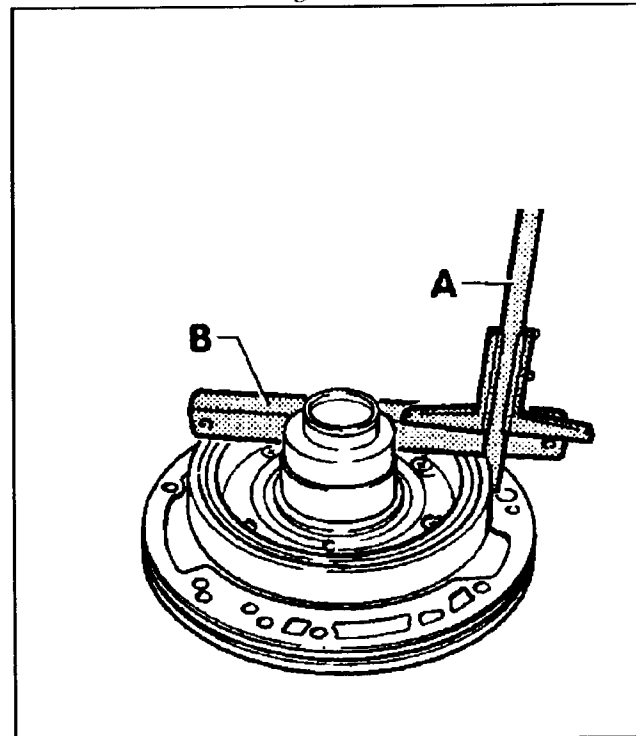

Figure 156
5. Calculating "B": Place straightedge onto stator support and measure with a depth gauge to gasket of pump flange (See Figure 156).